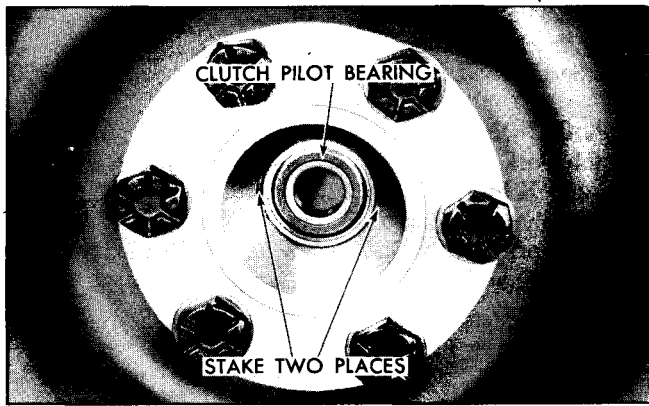

Fig. 7-8 Clutch Pilot Bearing Staked
4. If bearing is a snug fit in crankshaft, use Puller J 4383 and Slide Hammer J 2619-A to remove bearing. When installing new bearing, see that hole in crankshaft is thoroughly clean. Install new bearing with shielded side toward transmission. Start bearing into hole and tap into place. Stake slightly, as shown in Fig. 7-8, to keep bearing in place in case the transmission is removed in the future.